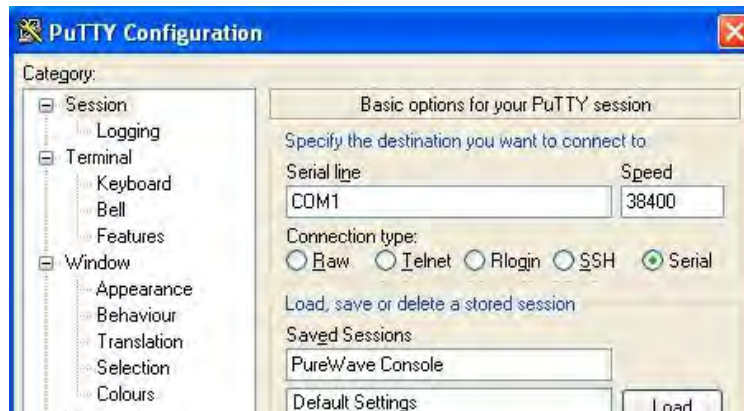

Figure 4 PuTTY Serial Port Configuration Window
- Open a terminal emulation program on the computer. Suitable programs are PuTTY or HyperTerminal (Figure 4).